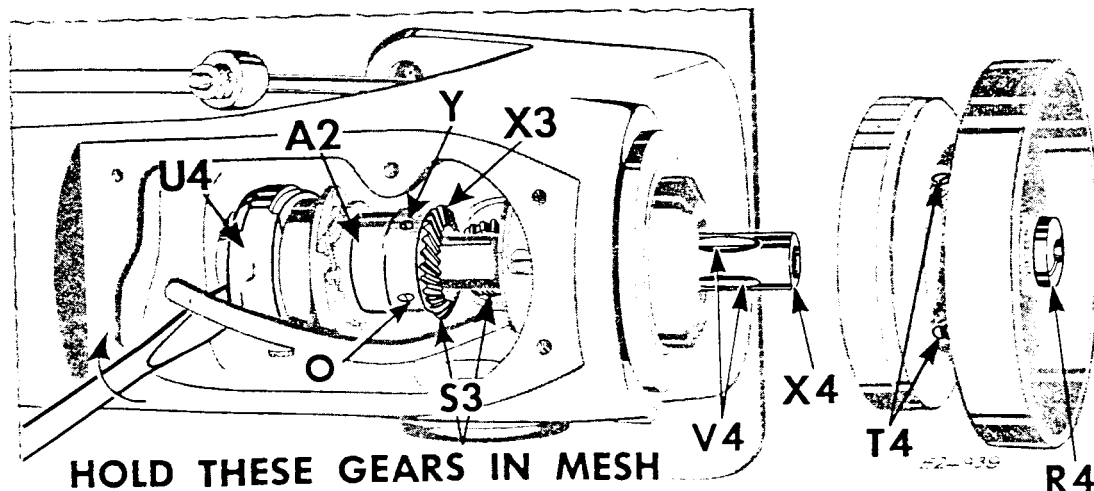

Fig. 70. Replacing the Arm Shaft
(See Fig. 70)
3. While still holding the bevel gears at S3 in mesh, with a screwdriver, as shown in Fig. 70, push the arm shaft X4 straight through the machine arm, the feed eccentric U4 and the feed-eccentric-and-bevel-gear X3, Fig. 70. (A light tapping with the palm of the hand, against the needle bar crank end, may be required.)
8. Using a screwdriver, as shown in Fig. 70, move feed eccentric U4 as close as possible to the connecting rod A2, Fig. 70 and tighten the timing screw and two set screws in eccentric U4.